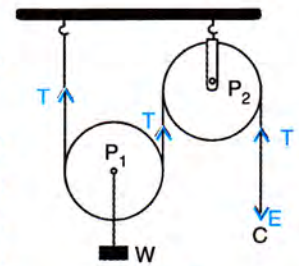

Fig. 3.28
2. The diagram in Fig. 3.28 shows the combination of two pulleys P_1 and P_2 used to lift up a load W .